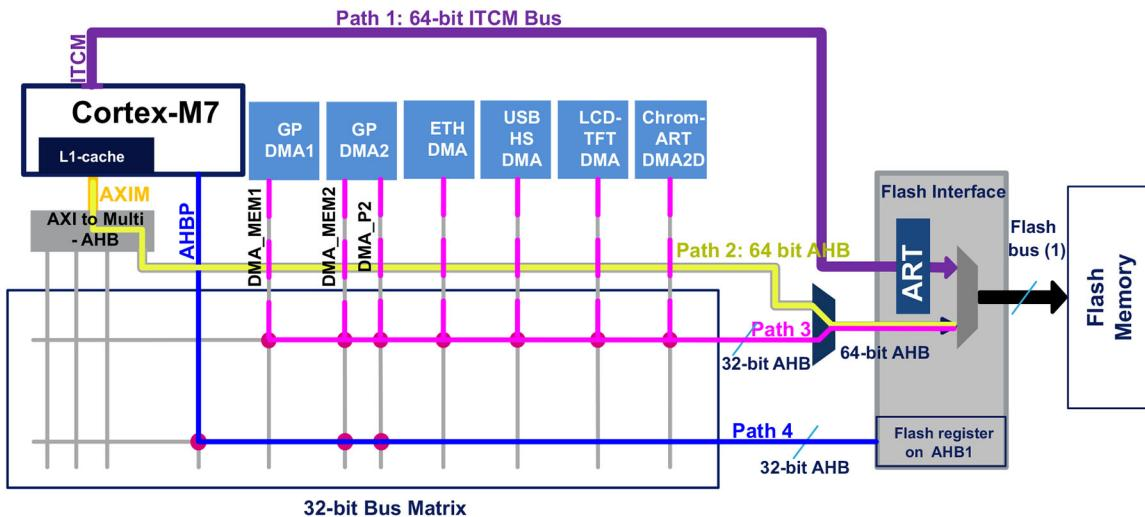

Figure 21.3: How the flash memory is accessed in an STM32F7 MCU
Looking at Figure 21.3¹⁰, you can see that the Cortex-M7 core has three distinct paths to access the flash controller (and so the flash memory). Before we describe these three paths, it is important to note a fundamental thing: the Cortex-M7 core already provides an integrated L1-cache. This cache has two dedicated cache pools, each one up to 64KB wide, one dedicated to the *I-Bus* and one for the *D-Bus*: this differs from other STM32 families, where data and instruction caches are implemented exclusively inside the ARTTM Accelerator.
- **A 64-bit ITCM interface:** it connects the embedded flash memory to the Cortex-M7 via the ITCM bus (Path 1 in Figure 21.3) and it is used for the program execution and data read
- **A 64-bit AHB interface:** it connects the embedded flash memory to the Cortex-M7 via the AXI/AHB bridge (Path 2 in Figure 21.3). It is used for the code execution, read and write accesses. The flash memory is accessible by the CPU through AXI/AHB bridge starting from the address 0x0800 0000 and it is cacheable (that is, it can use the L1-cache) reaching the same *0-wait* performances of the ART™ Accelerator. The L1-cache in Cortex-M7 cores can range from 4KB to 16KB. STM32F7/H7 provide two cache pools, one for the instructions (*I-Bus*) and one for the literal pools (*D-Bus*), each one up to 16KB wide. The L1-caches on all Cortex-M7 cores are divided into lines of 32 bytes. Each line is tagged with an address. The data cache is 4-way set associative (four lines per set) and the instruction cache is 2-way set associative. This is a hardware compromise to keep from having to tag each line with an address.
- **A 32-bit AHB interface:** it is used for DMAs transfers from the flash memory (Path 3 in Figure 21.3). The DMAs flash memory access is performed starting from the address 0x0800 0000.
A fourth path exists (see Figure 21.3) through the *Advanced Bus Peripheral* (AHBP) interface, and it is reserved to the access to flash peripheral registers inside the 0x4000 0000 peripheral mapped region.